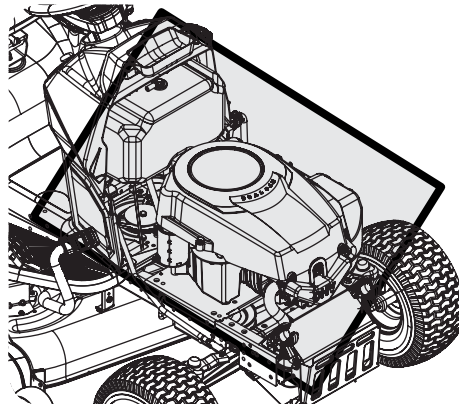

Figure 4-7
- Clean under the hood. Exhaust manifold, around fuses, all wiring and harnesses, muffler pipe, muffler shield, engine intake screens and cooling fins, etc. See Figure 4-7.